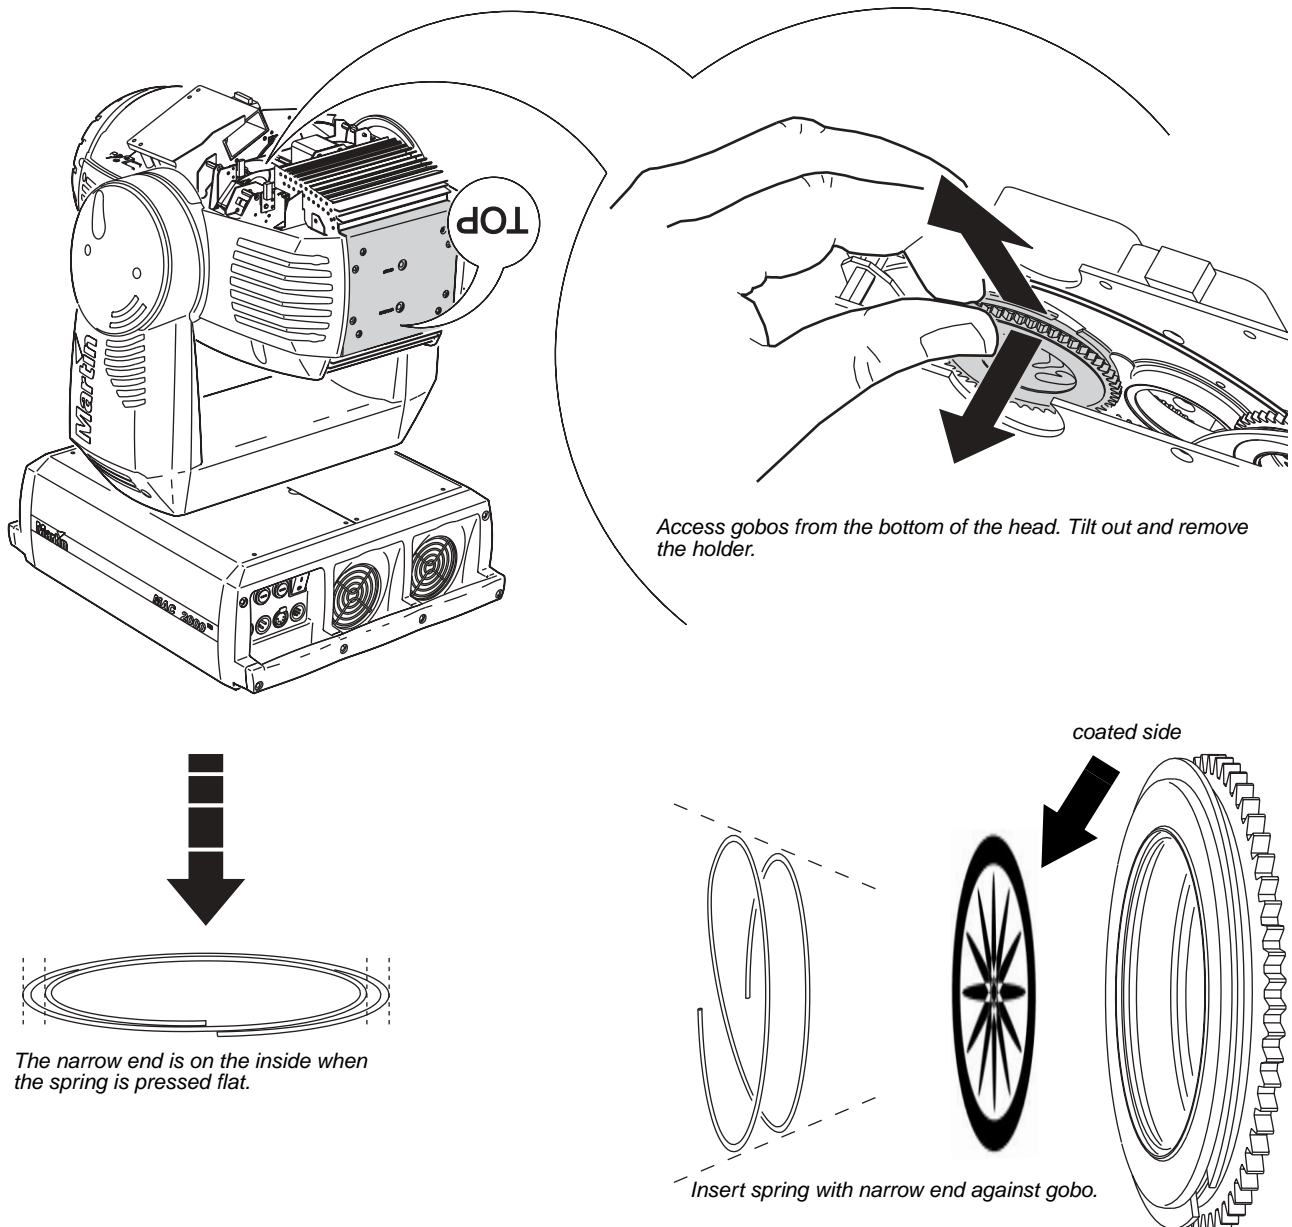

Figure 17: Replacing rotating gobos
- 2 See Figure 17. Lock the head in the upside down position and remove the bottom cover. Turn the gobo wheels as required to access the desired position. Pull the gobo holder away from the wheel slightly to release. Remove the gobo holder.